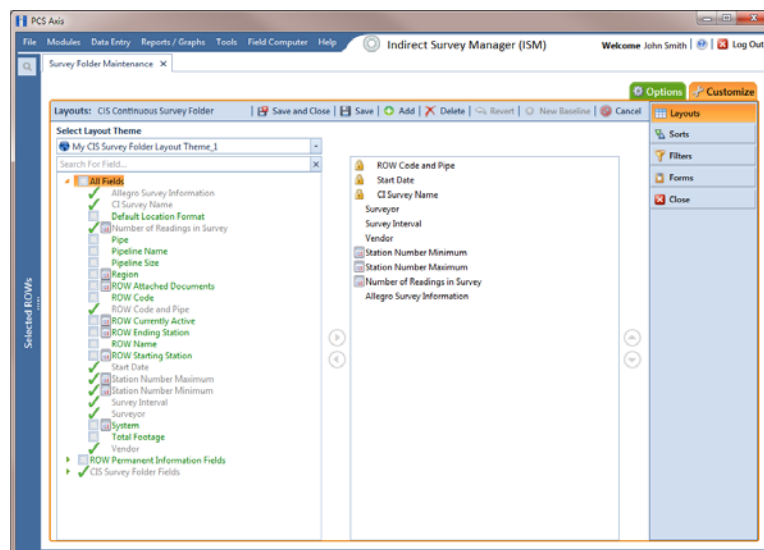

Figure 6-12. Layouts
- 8 Click  **OK** to save changes and return to the *Layouts* page (Figure 6-12).
NOTE: Fields with a lock icon  are required and cannot be removed from the theme, such as  **ROW Code and Pipe** shown in the previous example (Figure 6-12, page 170).